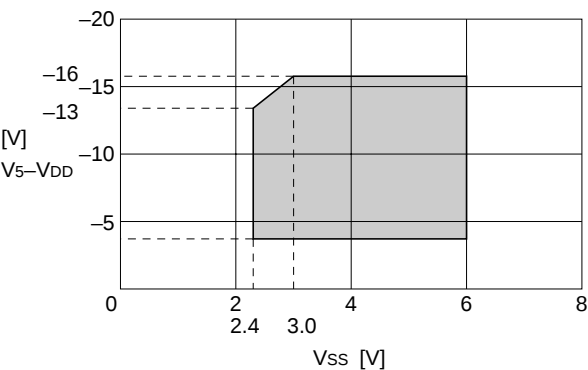

Figure 11
- *2. The operating voltage range of the V_{SS} and V₅ systems (see Figure 11). The operating voltage range is applied if an external power supply is used.
- *3. Pins A0, D0 to D7, RD (E), WR (R/W), CS1, CS2, FR, SYNC, M/S, C86, SI, P/S, T1 and T2.
- *6. Pins A0, RD (E), WR (R/W), CS1, CS2, CL, M/S, RES, C86, SI, SCL, P/S, T1, and T2.
- *8. The resistance when the 0.1-volt voltage is applied between the “On” output terminal and each power terminal (V1, V2, V3 or V4). It must be within the operating voltage (2).